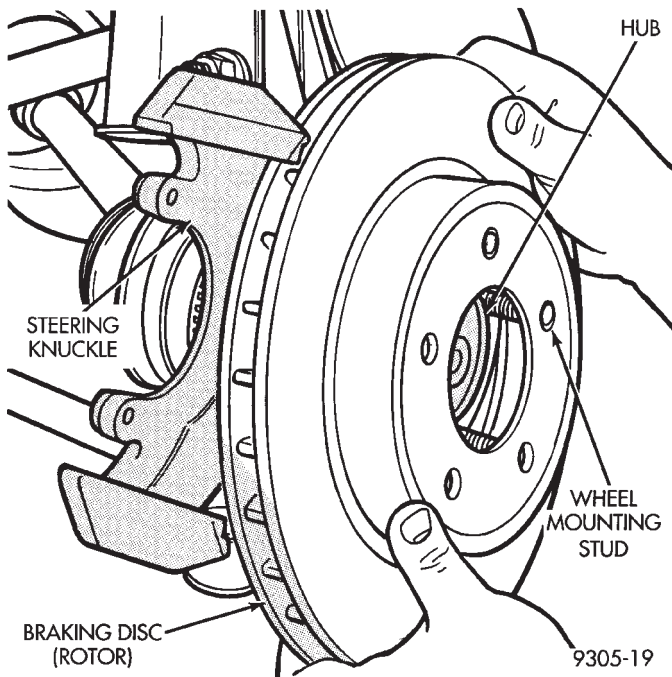

Fig. 4 Removing or Installing Braking Disc
(6) Remove front braking disk (rotor) from hub, by pulling it straight off wheel mounting studs (Fig. 4).
(3) Install the front braking disc (rotor) on the hub, making sure it is squarely seated on face of hub (Fig. 4).
(4) Remove the protective paper from the noise suppression gasket on both the inner and outer brake shoe assemblies (if equipped).